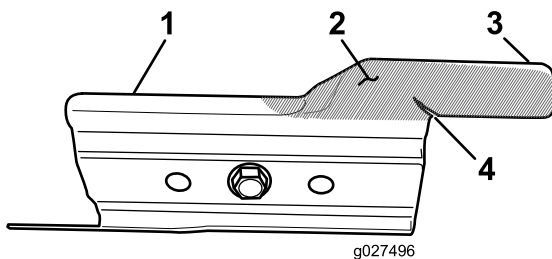

Figure 30
Carefully examine the accelerator for excessive wear (Figure 30). Because sand and abrasive material can wear away the metal (especially in the area shown as item 2 in Figure 30), check the accelerator before using the machine. If you notice that a tab on the accelerator has been worn down to a sharp edge or there is a crack, replace the accelerator; refer to Removing the Blade (page 26).